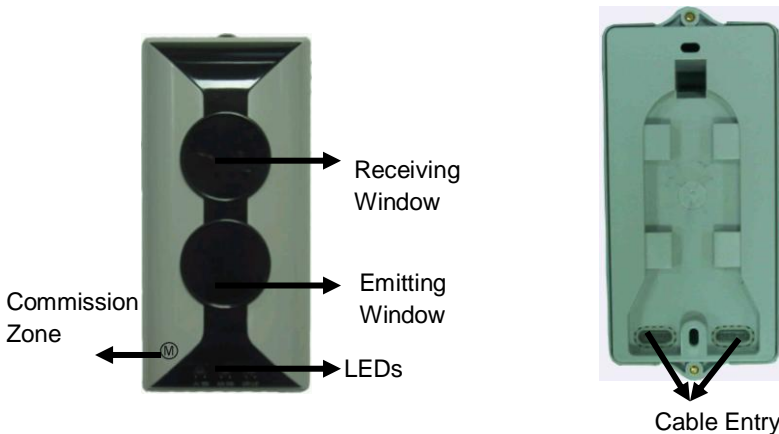

Fig. 1
1. Appearance of the detector is shown in Fig. 1.